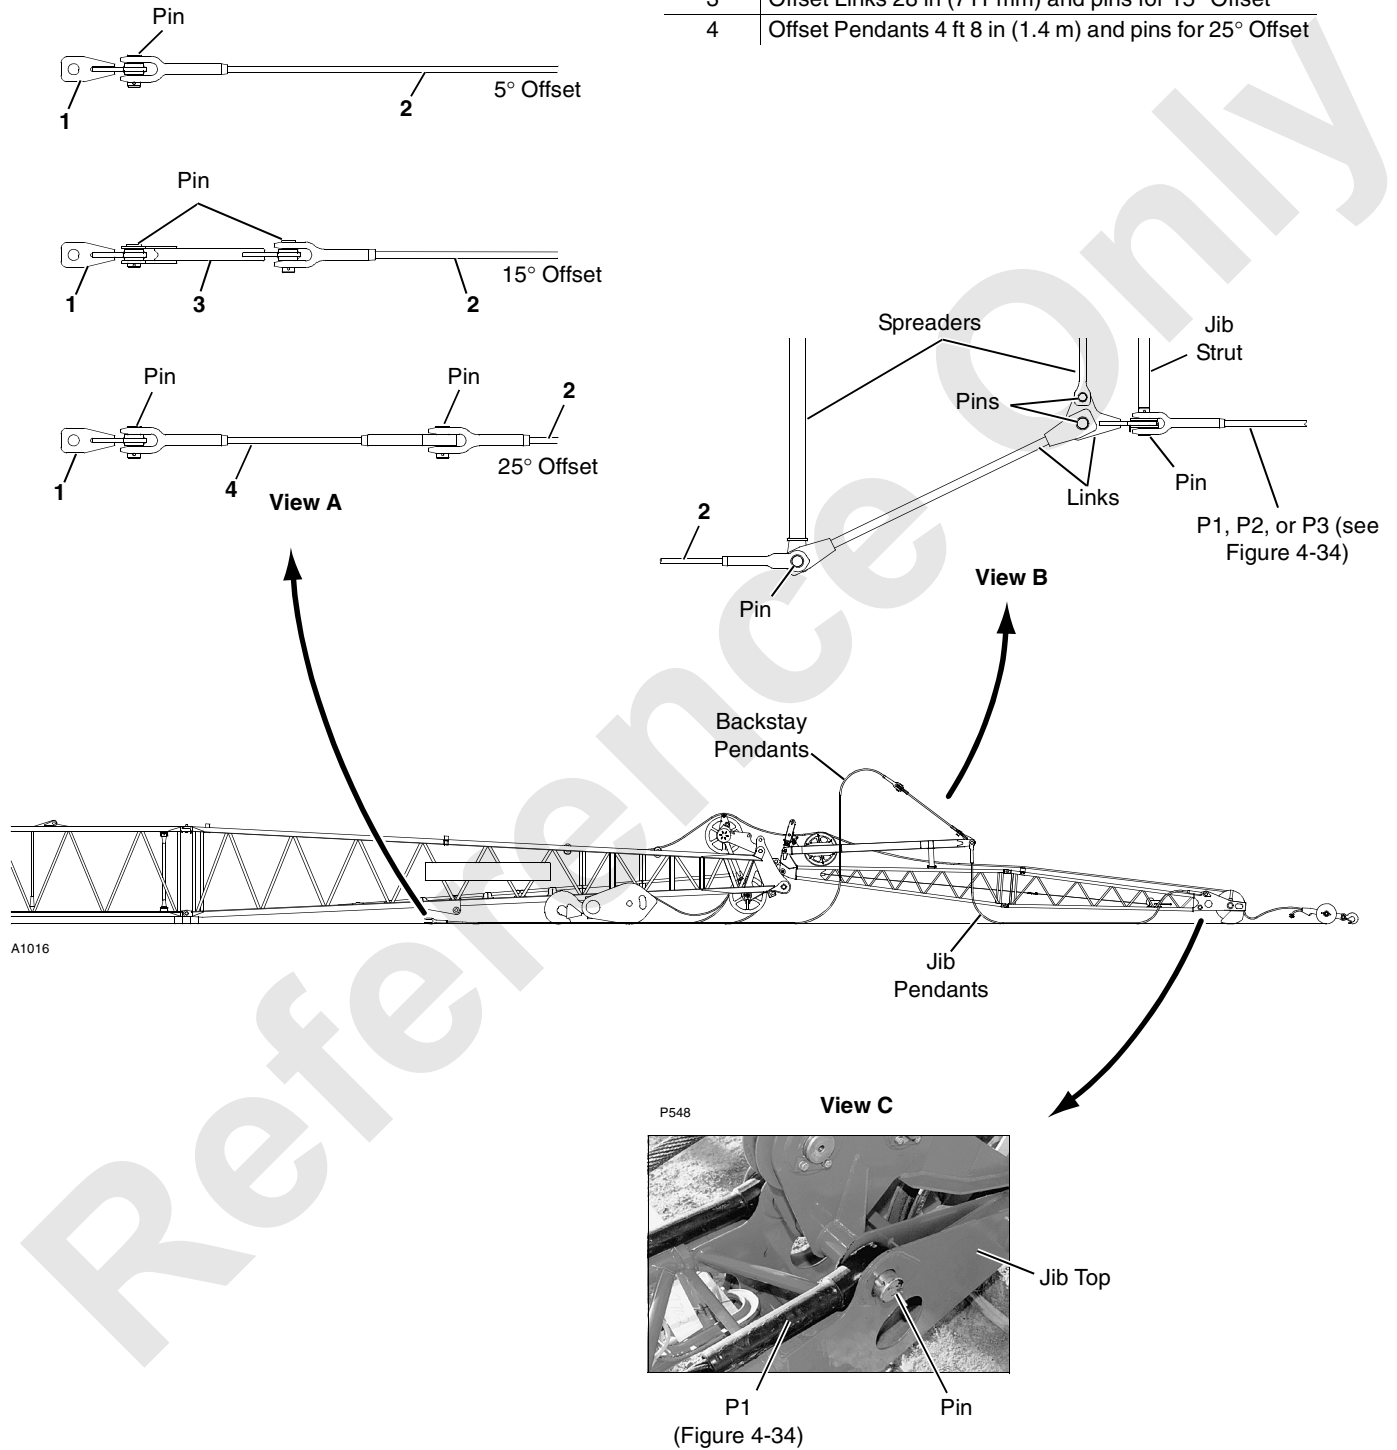

FIGURE 4-37
Jib offsets of 5, 15, and 25° are obtained by changing the length of jib backstay straps, links, and pendants as shown in Figure 4-37, View A.
Jib components (top, inserts, butt, pendants) must be assembled in proper sequence according to this topic and the Jib Assembly drawing in this section. See Figure 4-34 and Figure 4-37 to determine quantity and length of inserts and pendants required for various jib lengths.
See Figure 4-37 for following procedure unless otherwise noted.
1. Pin basic backstay pendants (2), spreaders and links to links on jib strut as shown in Figure 4-37, View B.
See Figure 4-37, View A for following procedure.
1. Disconnect backstay pendants (2) and remove spreader and links from strut (Figure 4-37, View B).
See Figure 4-37 for following procedure.